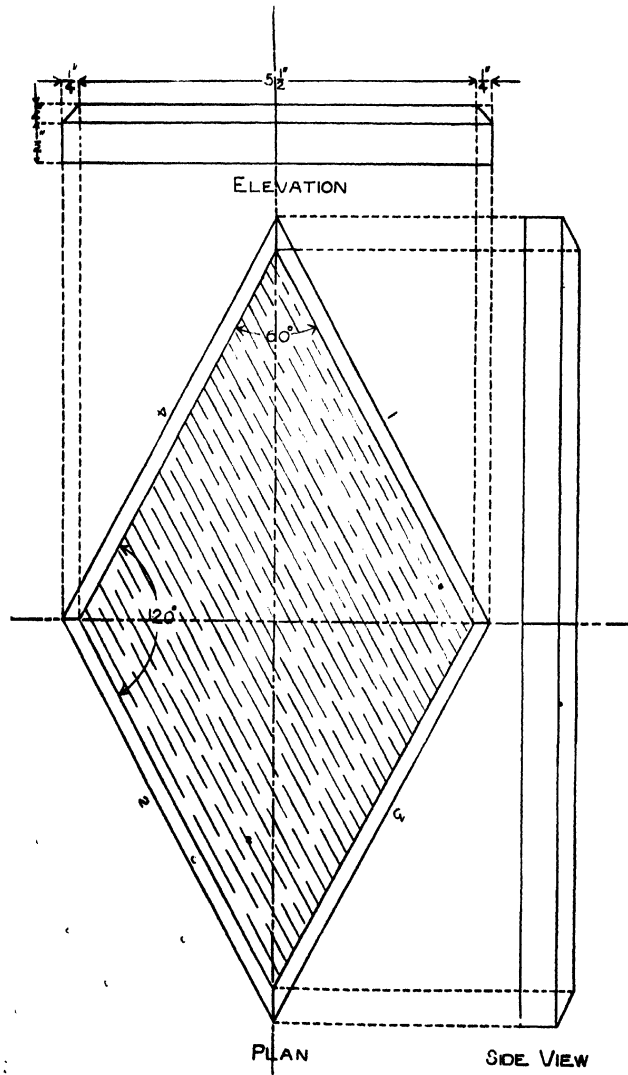
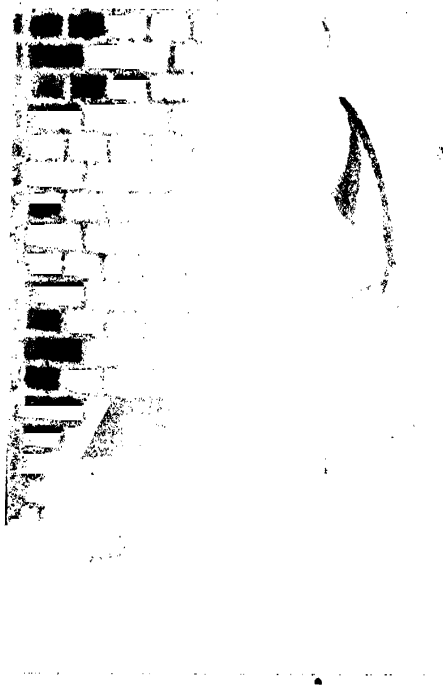

Fig. 61.
Fig. 67.
Make the working drawings. (Fig. 61).
To chamfer the two edges parallel to the grain, i.e., edges (1) and (2) of the plan (Fig. 61), use the smoothing plane. Place the wood in the vice, and holding the plane at 45° to the face side (Fig. 66) plane in the
To chamfer the two edges across the grain, i.e., edges (3) and (4) of the plan (Fig. 61), place the wood in the vice and remove thin shavings by means of the  $\frac{3}{4}$ " firmer chisel. Fig. 67 shows how the chisel should be